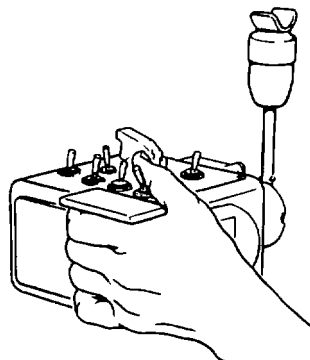

Figure 2-3. Operating Mode Switches.
(1) **MODE SELECTOR SWITCHES**-These switches are used to select the operating mode (controlled by the control lever) for the SPEMS. Operate the mode selector switch with your left hand thumb. See Figure 2-3.